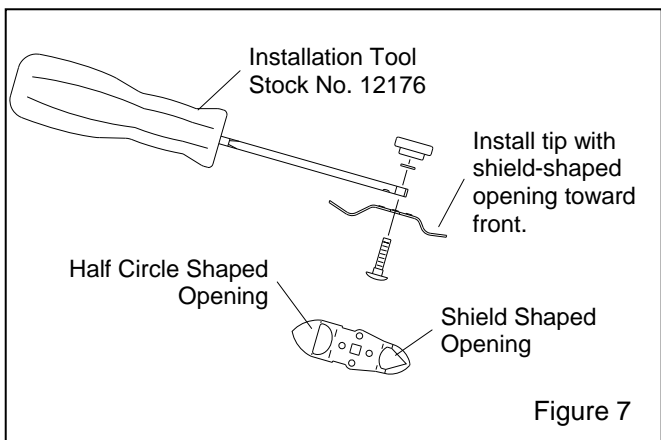

Figure 7
8. Attach the appropriate tip to the installation tool as shown in Figure 7.